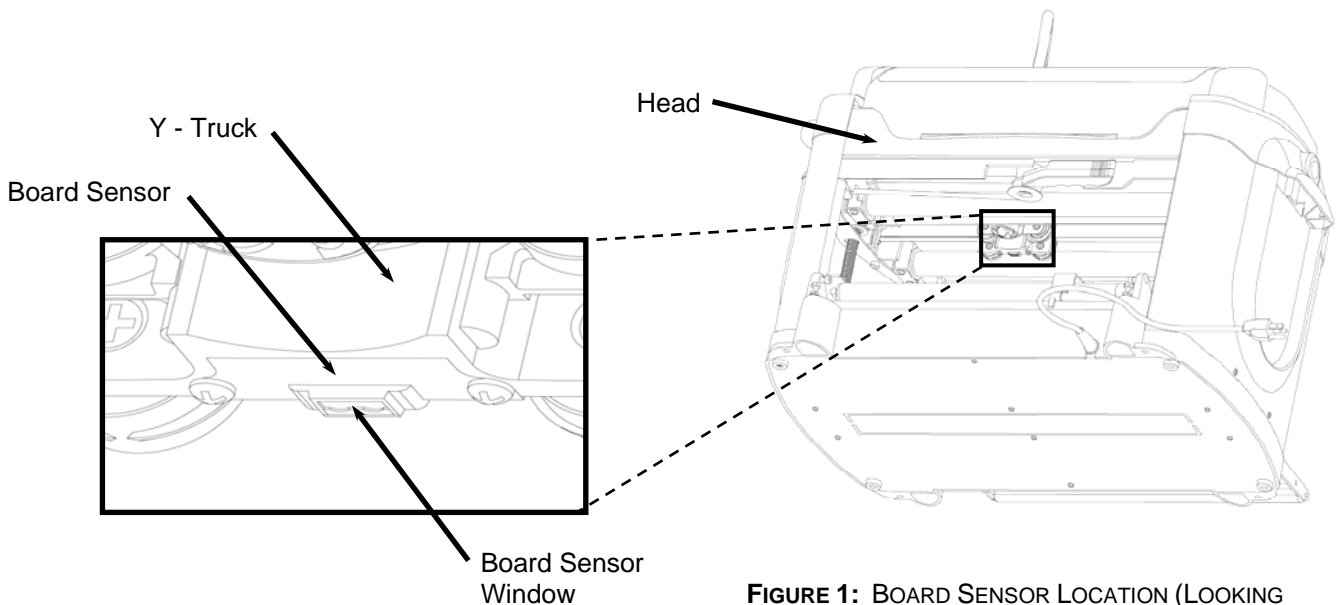

FIGURE 1: BOARD SENSOR LOCATION (LOOKING FROM BELOW W/O AN OUTFEED TABLE)
From time to time the board sensor can become obscured by dust. The sensor system consists of an infrared LED and an infrared detector. The sensor bounces infrared (IR) light off of the workpiece and monitors how much gets reflected back to the sensor detector. The machine is looking for a sharp transition that happens as the end or edge of the workpiece passes under the sensor. The sensor is located underneath the Y-Truck and is only visible from underneath the head (see Figure 1). The sensor elements are mounted behind the clear window in a plastic case.